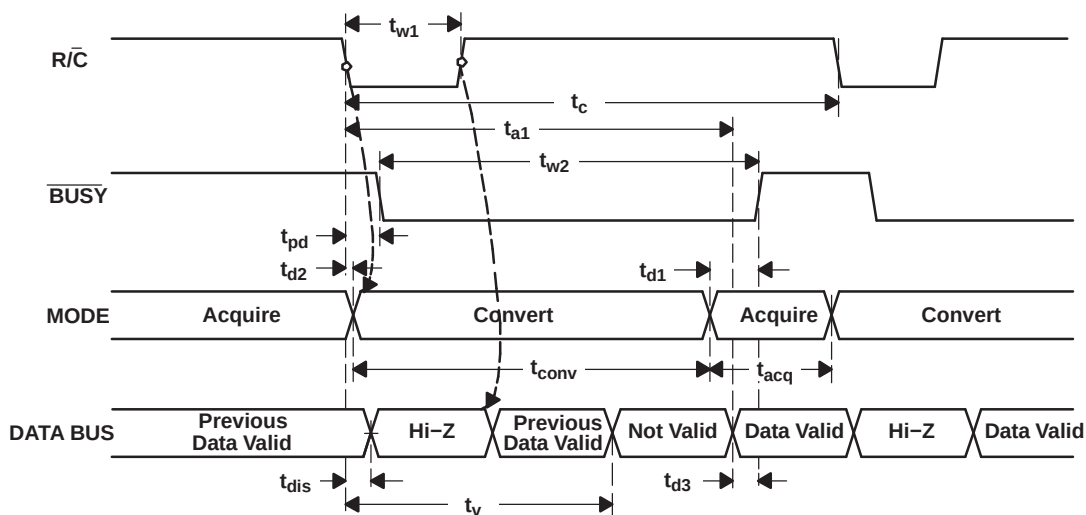
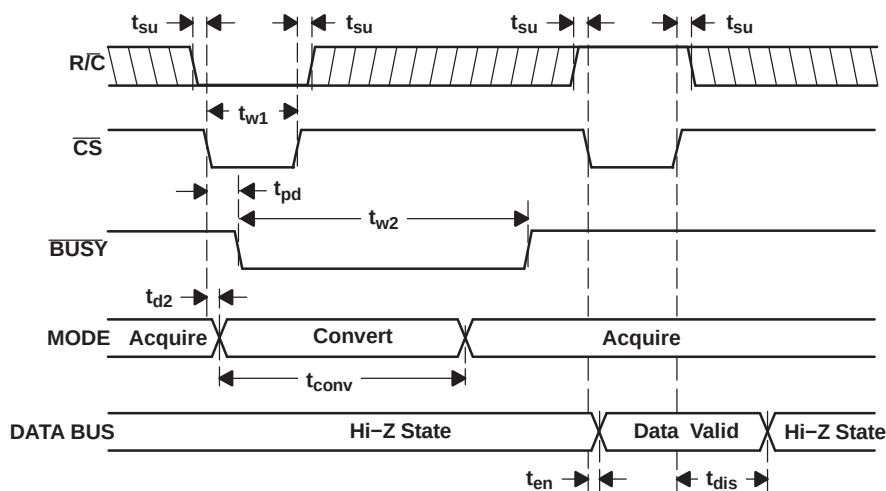
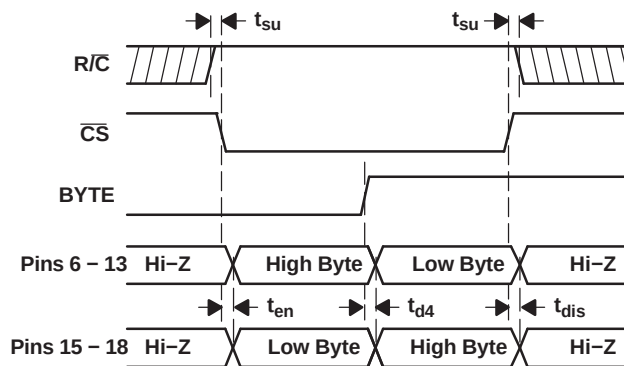

Figure 19. Conversion Timing with Outputs Enabled after Conversion ($\overline{CS}$ Tied Low)
Figure 20. Using $\overline{CS}$ to Control Conversion and Read Timing
Figure 21. Using $\overline{CS}$ and BYTE to Control Data Bus
The ADS8504 begins tracking the input signal at the end of the conversion. Allowing 4 μ s between convert commands assures accurate acquisition of a new signal. Refer to Table 1 for a summary of $\overline{CS}$, $\overline{R/\overline{C}}$, and $\overline{BUSY}$ states and Figure 19, Figure 20, and Figure 21 for the timing diagrams.
(1) See Figure 19 and Figure 20 for constraints on data valid from conversion $n-1$.
After conversion n is completed and the output registers have been updated, $\overline{\text{BUSY}}$ (pin 26) goes high. Valid data from conversion n is available on D11-D0 (pins 6-13 and 15-18). $\overline{\text{BUSY}}$ going high can be used to latch the data. Refer to Table 3 and Figure 19, Figure 20, and Figure 21 for timing specifications.
After conversion n has been initiated, valid data from conversion $n-1$ can be read and is valid up to t_2 (2.2 μs typ) after the start of conversion n . Do not attempt to read data from t_2 (2.2 μs typ) after the start of conversion n until $\overline{\text{BUSY}}$ (pin 26) goes high; this may result in reading invalid data. Refer to Table 3 and Figure 19, Figure 20, and Figure 21 for timing specifications.
The number of control lines can be reduced by tying $\overline{\text{CS}}$ low while using the falling edge of $\text{R}/\overline{\text{C}}$ to initiate conversions and the rising edge of $\text{R}/\overline{\text{C}}$ to activate the output mode of the converter. See Figure 19.